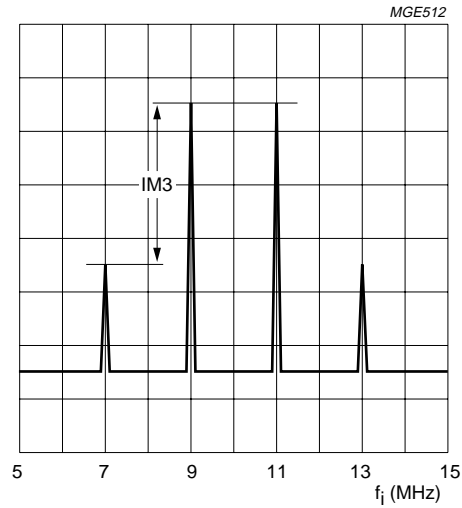

Fig.3 IM3 definition.
7. The specified intermodulation distortion is the minimum value obtained from intermodulation measurements in the I and Q channels. Intermodulation is measured with two sine wave signals at $f_{i(\text{RF})} = 79$ MHz and $f_{i(\text{RF})} = 81$ MHz with an amplitude of 67 dB μ V for each tone. The difference in level between the converted carriers (9 MHz and 11 MHz) and the intermodulation products after frequency conversion (7 MHz and 13 MHz) is defined as IM3 (see Fig.3).